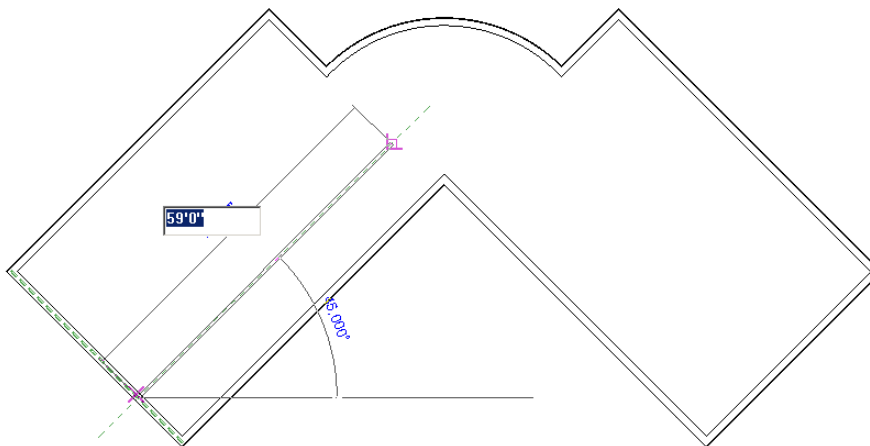

Figure 2-62 Sketching the first interior wall of the Club
4. Move the cursor 45 degree upward to the right. When a dashed line and the perpendicular object snap symbol appear, enter the value **59'0"**, as shown in Figure 2-62.